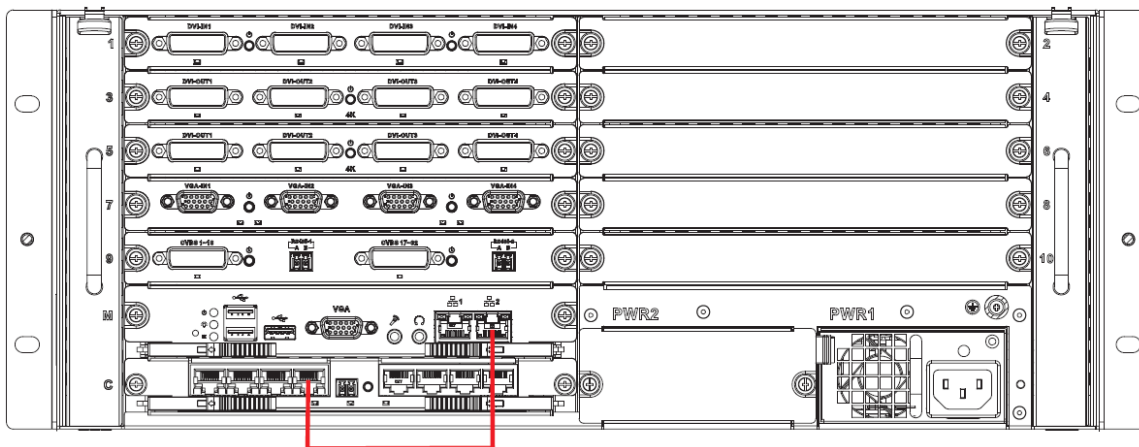

Figure 1-9
Step 6 Connect network interface 2 of main control panel and network interface of control panel with a gigabit network cable; connect network interface 1 of main control panel and client network, as shown in Figure 1-9.